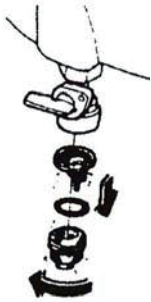

Fig. 44
7.4.1 Set the fuel switch to OFF position, Dismantle the fuel filter cup and gauze (Figure 44)